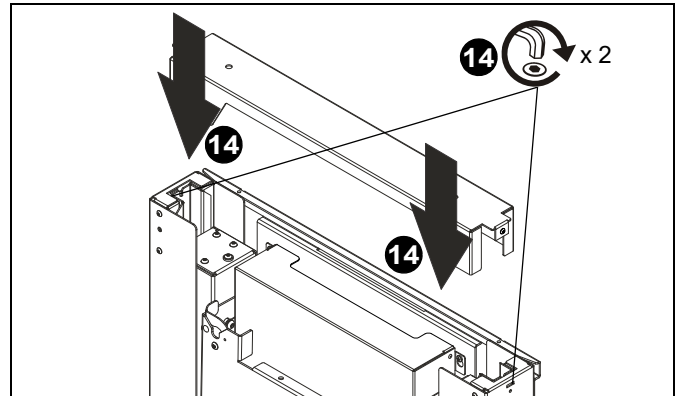

Figure 30
**NOTE:** If control pad (P) was installed on either side at the top of the mount, mount will need to be partially extended in order to re-install top cover.
15. Re-install top cover and tighten button head cap screws to secure it in position. (See Figure 30)